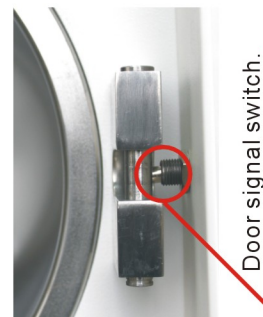

Fig.7.1-5
2、 when the operation display window show flashing “Ld” or “do” ,you need open the door, then close the door! If this step has been operated, the door is in a closed state, appeared in “Ld” or “do” flashing also.Please you check the door signal structure.Fig.7.1-5.